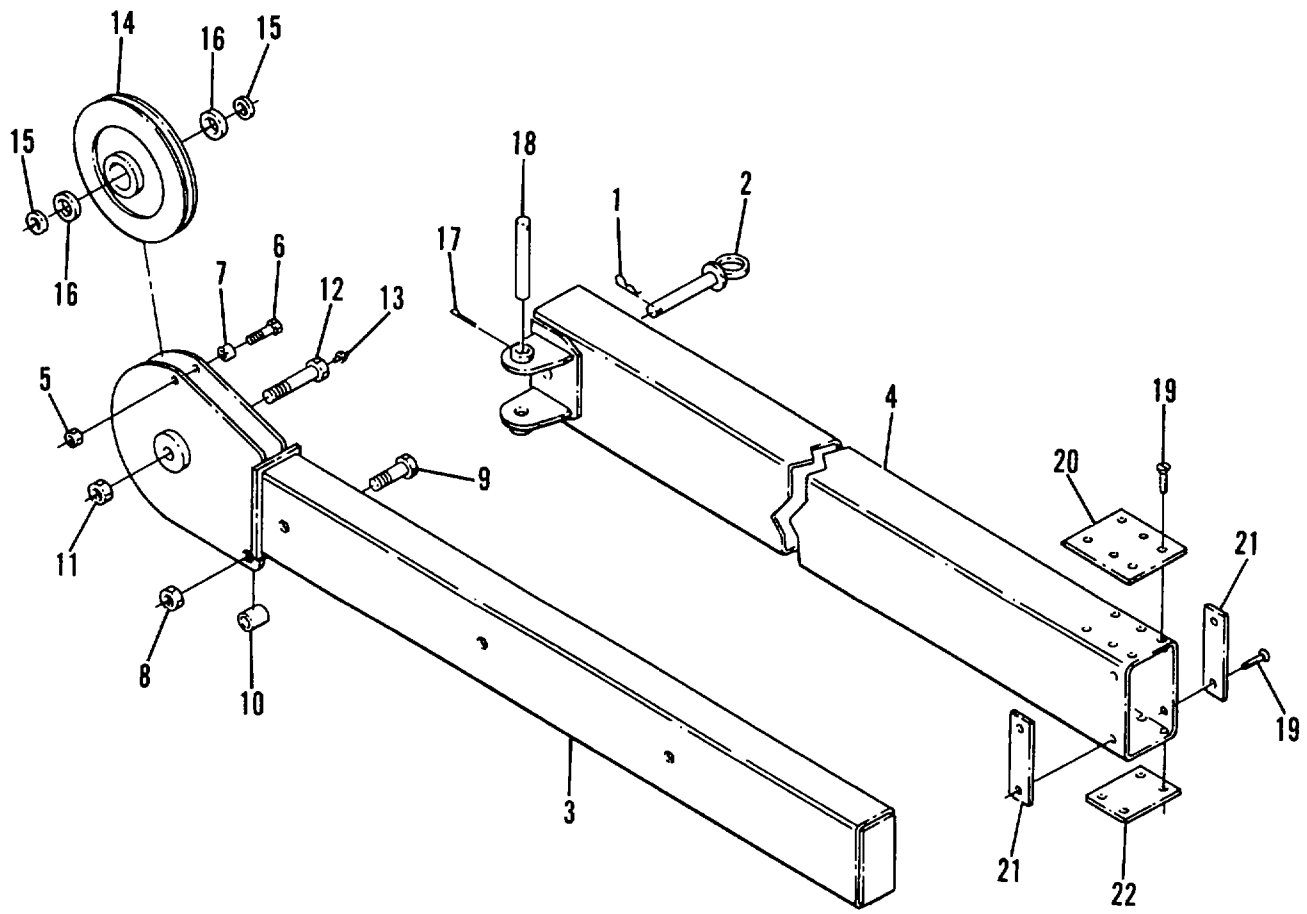

Figure 5-9. Extension Boom Assembly
5-7.3 Extension Boom Assembly. (Figure 5-9)
- h. Pull extension boom (4, figure 5-9) out of main boom and, as necessary, remove screws (19) and wear pads (20, 21 and 22).